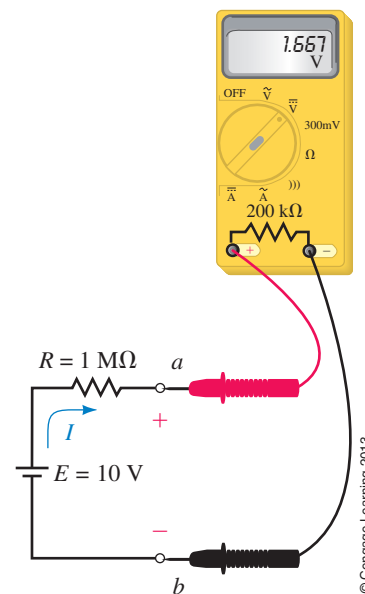

FIGURE 6-37
By connecting the 200-kΩ voltmeter between the terminals, as shown in Figure 6-37, we see that the voltage detected between terminals a and b will no longer be the desired voltage; rather,
A digital voltmeter having an internal resistance of $5 \text{ M}\Omega$ is used to measure the voltage across terminals a and b in the circuit of Figure 6-37.
Use Multisim to demonstrate the loading effect of the voltmeter used in Figure 6-37. The voltmeter is to have internal resistance of 200 kΩ.
- Construct the circuit by placing the battery, resistor, and ground as shown in Figure 6-37.